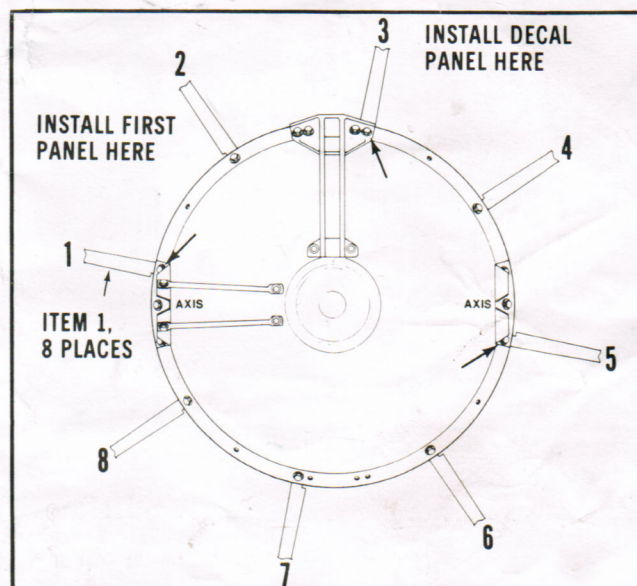

Figure 2. Rear View of Hub Assembly
## STEP-BY-STEP ASSEMBLY INSTRUCTIONS FOR FIGURES 2 AND 3.
2. Starting at position 1 as indicated in figure 2, bolt a panel brace (1) to the hub perimeter, using previously installed hardware items (4), (5), and (6). Both ends of the panel brace are identical; therefore, either end may be bolted to the hub. Position the brace at the hub as shown in figure 2.
**In addition to position 1, positions 3 and 5 (indicated by heavy arrows in figure 2), also use previously installed hardware to attach panel braces to the hub.**
3. Bolt a second panel brace (1) to the hub perimeter at position 2, using hardware items (4), (5), and (6). Orient this brace and all other braces to be installed as you did the first brace.
4. With the first two panel braces (1) attached to the hub assembly, position a dish panel (2) between the two braces and bolt the narrow-end of the panel to the front of the hub assembly using hardware items (4), (5), and (6). You can attach the nut (6) by reaching through the large hole at the rear of the hub assembly.
5. Bolt the other end of the panel brace (1) installed at position 1 to the flange of the panel (2) just installed; use hardware items (4), (5), and (6).
6. Continue installing panels (2) and braces (1) alternately in a clockwise direction around the hub assembly as shown in figure 2. The decal panel should be installed at panel position 3 as shown.